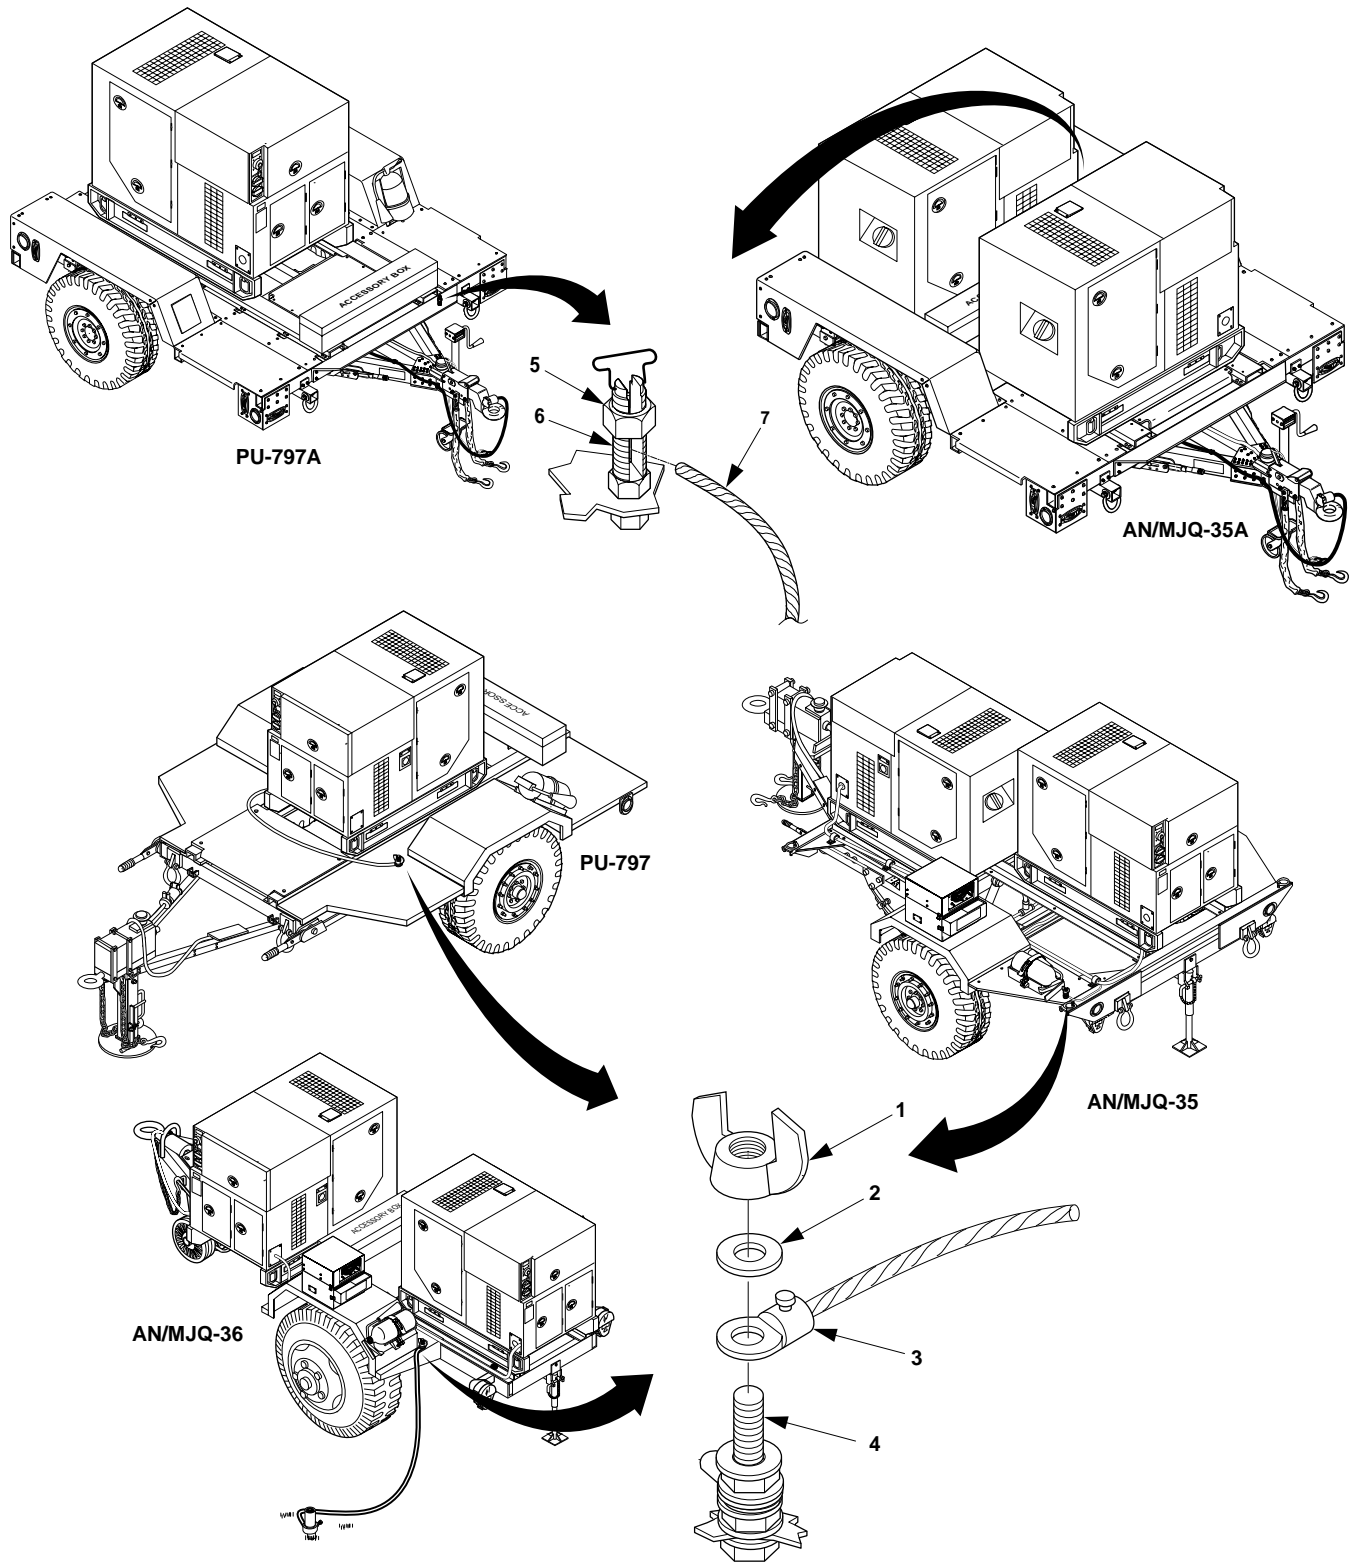

Figure 2-10. Power Plant and Power Unit Ground Connections.
2-3.3 Grounding of Power Unit/Power Plant (Trailer). Ground the equipment in accordance with Army Technical Bulletin, TB 43-0125 (Installation of Communications Electronic Equipment: Hookup of Electrical Cables to Mobile Generator Sets on Fielded Equipment to Meet Electrical Safety Standards) and Field Manual, FM 5-424 (Theatre of Operations Electrical Systems). Typical ground rod installations are shown in figure 2-10. Install and connect ground rod as follows:
- (1) If LTT (AN/MJQ-35A or PU-797A) is being used, perform steps (5) and (6). Otherwise perform steps (2) through (4).
- (2) Remove and retain wing nut (1, figure 2-10) and flat washer (2) from trailer ground stud (4) and install ground cable terminal lug (3) to ground stud (4).
- (3) Install flat washer (2) on ground stud (4).
- (4) Install wing nut (1) on the ground stud (4) and tighten.
- (5) Loosen nut (5) on LTT ground terminal (6).
- (6) Insert wire (7) through slot of ground terminal (6) and tighten nut (5).